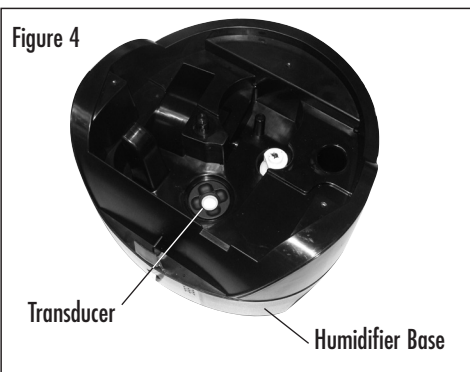

Figure 4
2. Clean the base by partially filling the base with one 8-oz cups of undiluted white vinegar, or by using Cleanse Clean® Solution (Model S1710) by the manufacturer. Leave this solution in the base for 20 minutes, while cleaning all the interior surfaces with a soft brush (brush not included). Gently scrub the area around the transducer (located at the humidifier base) with a soft brush. Remove base scale by wiping the base with a cloth dampened with undiluted white vinegar. (see Figure 4)